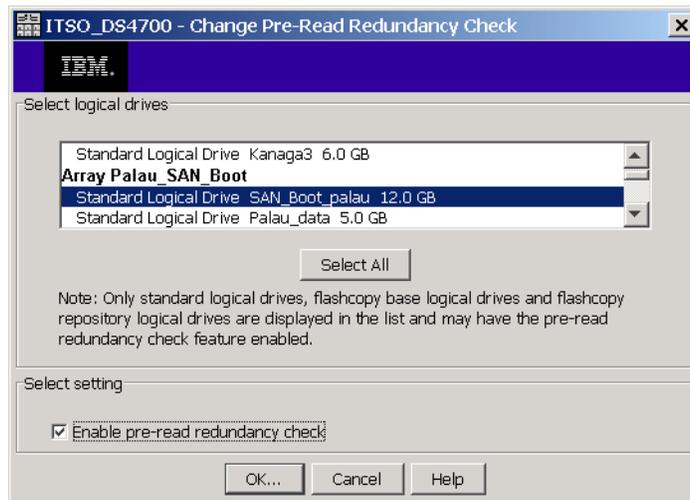

Figure 5-86 Enabling pre-read redundancy check
3. Make sure that the correct logical volume is selected and click the check-box to enable the feature on the volume, as in Figure 5-86.